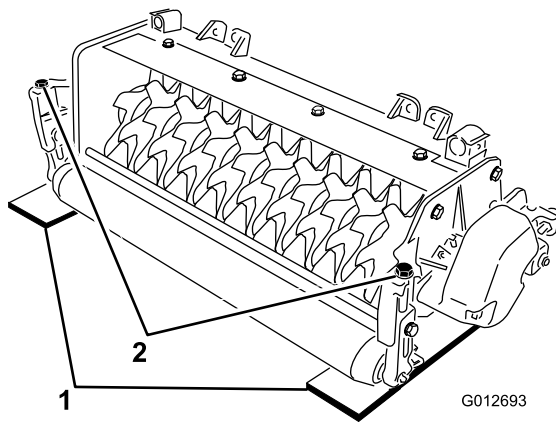

Figure 4
and rear rollers of the verticutter reel (on each end of the reel) (Figure 4).
3. Turn the adjusting bolt on each height-of-cut bracket (Figure 4) so that the reel blades come in contact with the level surface on both ends.